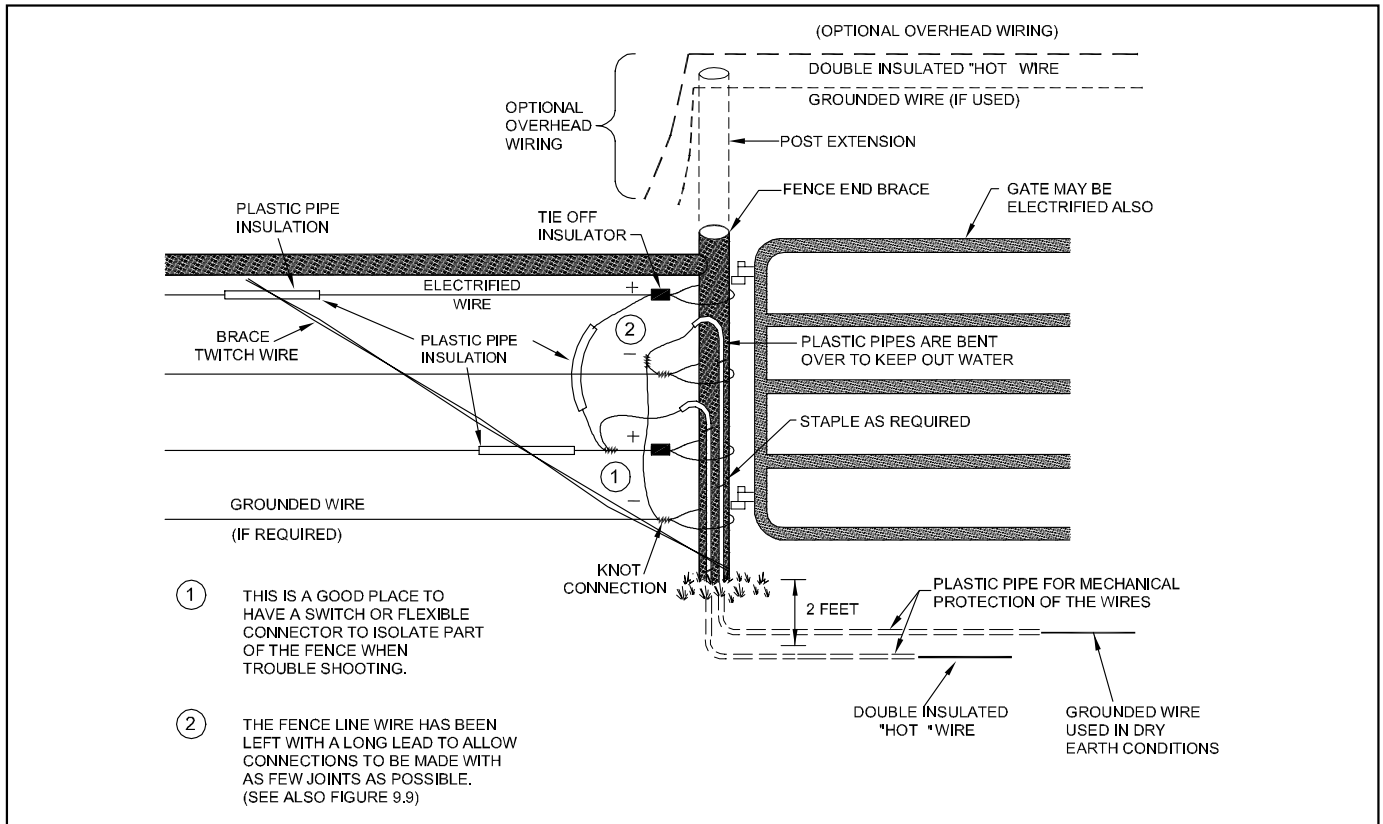

Figure 8 Wiring at a Gate
The width of gate openings may have to be larger than normal to overcome the animals tendency to stay back from the electric fence. Refer to Factsheet 307.400-1 for examples of gates for electric fences and Figure 8, page10 for wiring at a gate.
- **under the gate.** This is usually the simplest method but requires good insulation and mechanical protection of the wire; refer to Figure 8, page 10